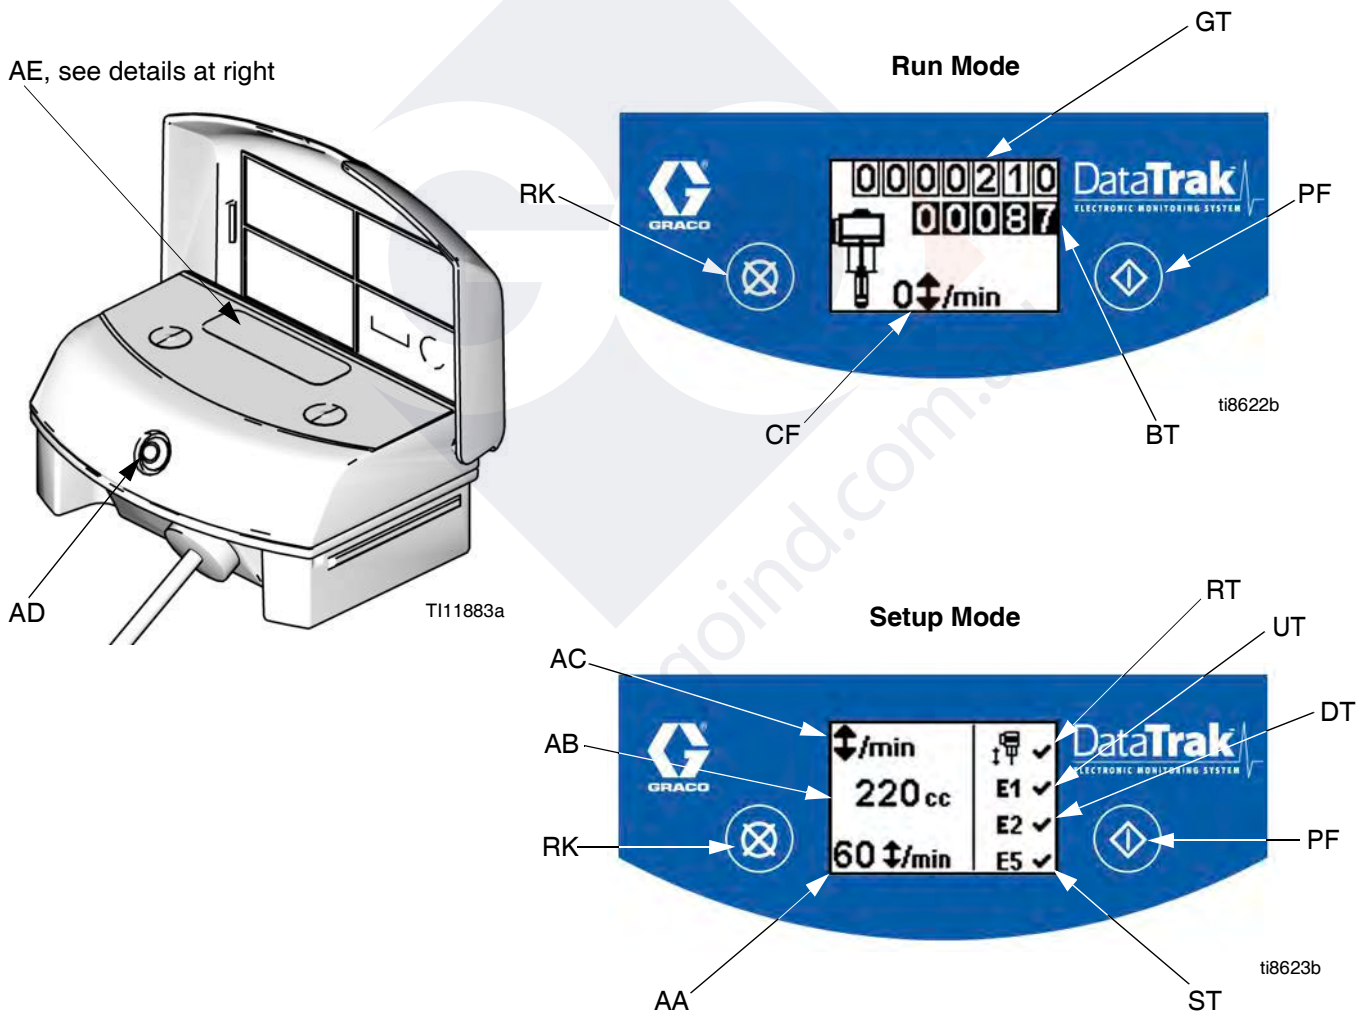

FIG. 9. DataTrak Controls and Indicators
Key for FIG. 9
1. See FIG. 9. Press and hold  for 5 seconds until Setup menu appears.
NOTE: When runaway, E1, E2, and E5 error options are enabled, a ✓ will appear on the setup screen. See FIG. 9.
1. See FIG. 9. If pump runaway occurs, the runaway solenoid will actuate, stopping the pump. The LED (AD) will flash and the display (AE) will indicate a runaway condition (see Table 1). The display will cycle through six instruction screens.
2. Runaway Screens 1 and 2: To reset the runaway solenoid, close the master air valve (U). Wait for air to completely bleed off the air motor.
5. Open master air valve (U) to restart pump.
NOTE: To disable runaway monitoring, go to setup mode and set runaway value to 0 (zero) or toggle (RT) off  (see FIG. 9).
1. See FIG. 9. To enter Prime/Flush mode, press any key to wake up the display, then press . The Prime/Flush symbol will appear in the display and the LED will flash
2. While in Prime/Flush mode, runaway protection is disabled and the batch totalizer (BT) will not count. The grand totalizer (GT) continues to count.
See FIG. 9. The last digit of the batch totalizer (BT) represents tenths of gallons or liters. To reset the totalizer, press any key to wake up the display, then press and hold  for 3 seconds.
See FIG. 9. The display (AE) will turn off after 1 minute of inactivity in Run mode or 3 minutes in Setup mode. Press any key to wake up the display.
DataTrak can diagnose several problems with the pump. When the monitor detects a problem, the LED (AD, FIG. 9) will flash and a diagnostic code will appear on the display. See Table 1.